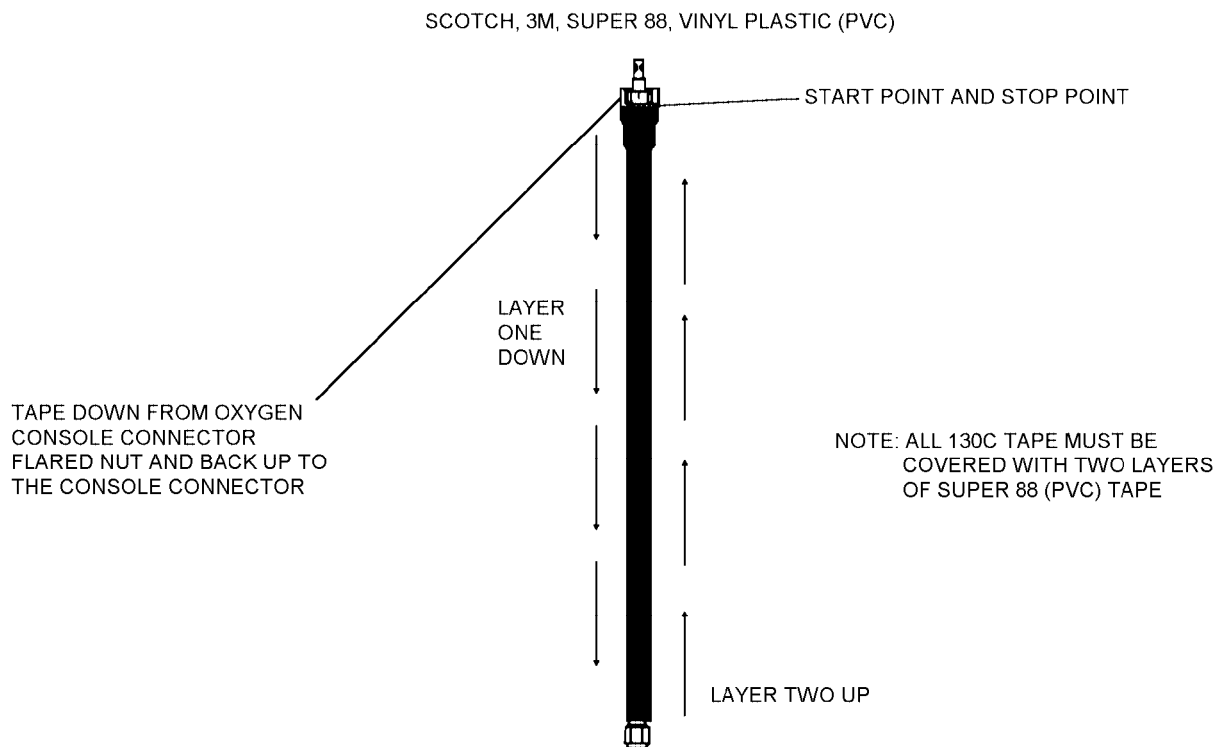

Figure 4-47. Seat Kit to Aircraft Console Hose Assembly Taping
- e. Repeat above taping procedure with Super 88 Polyvinyl Chloride (PVC) plastic tape. Starting at console connector, apply while stretching tape to 5/8 of its original width and wrap tape to form a smooth void-free layup. When wrapping the tape, ensure the tape overlaps itself by at least 1/2 the tape width (figure 4-47). Work down the length of the hose from the console connector and back up the length of the hose to form a second layer of PVC tape. Ensure all silicone rubber surfaces of the hose are completely covered.
e. Repeat above taping procedure with Super 88 Polyvinyl Chloride (PVC) plastic tape. Starting at the console connector, apply while stretching tape to 5/8 of its original width and wrap tape to form a smooth void-free layup. When wrapping the tape, ensure the tape overlaps itself by at least 1/2 the tape width (figure 4-47). Work down the length of hose from console connector and back up the length of the hose to form a second layer of PVC tape. Ensure all silicone rubber surfaces of the hose are completely covered.